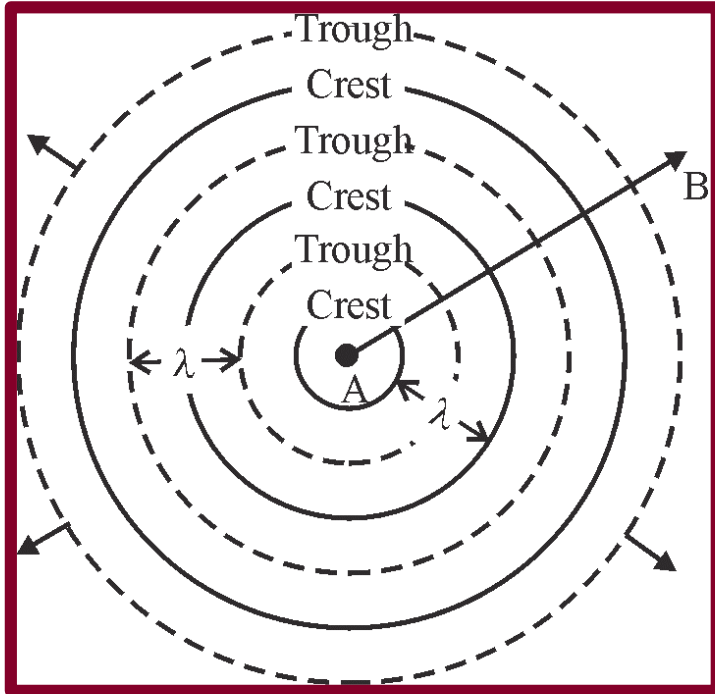

Figure 1
- The solid circles in Figure 1 indicate the wave *crests*—maximum displacements up (+amplitude); the dashed circles indicate the wave *troughs*—maximum displacements down (-amplitude).